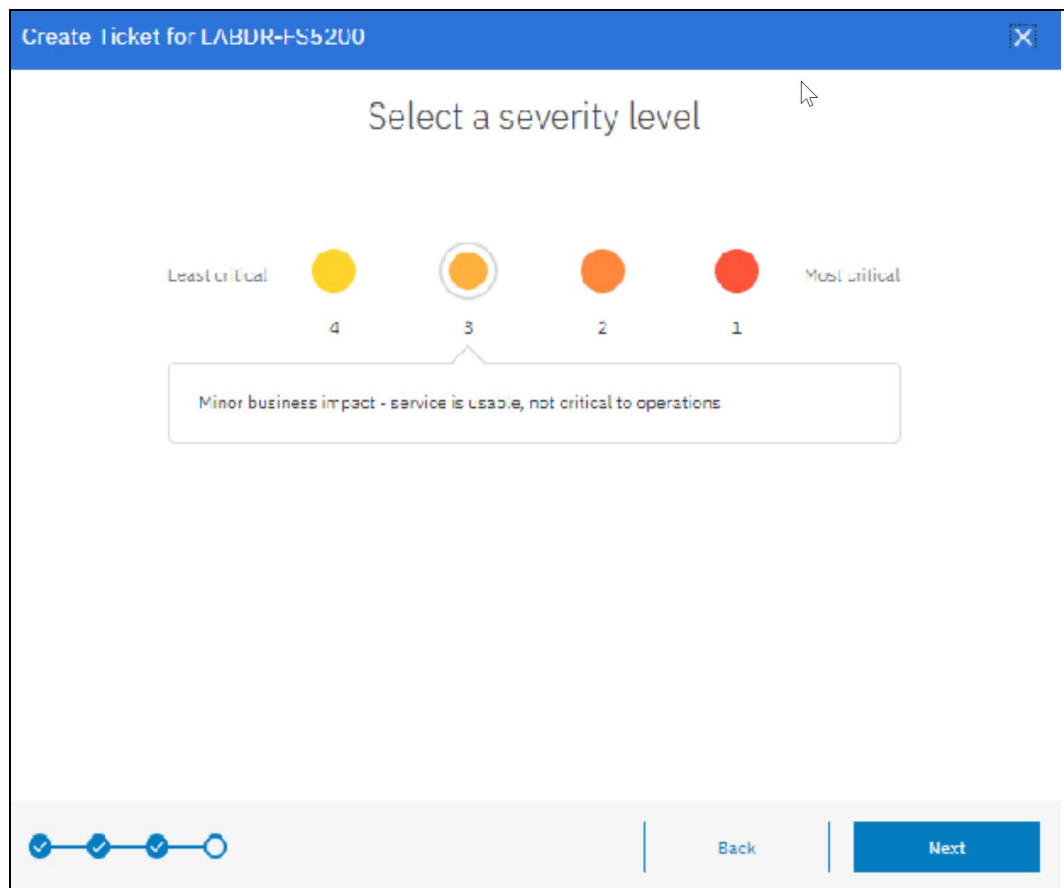

Figure 11-19 Setting the severity level
3. You are prompted to set a severity level for the ticket, as shown in Figure 11-19. Severity levels range from Severity 1 (for a system that is down or extreme business impact) to Severity 4 (noncritical issue).